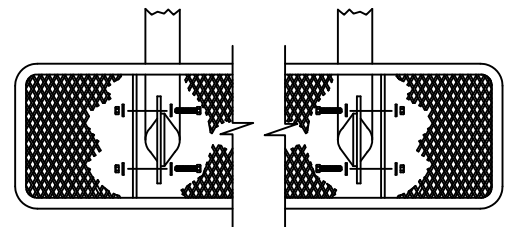

FIG. 2
Attach both (B-) seats to each side of the picnic table, aligning the seat's mounting brackets to the inside of the leg's mounting brackets, as shown in FIG. 2. Use two, per mounting bracket, (G) and (H) using two (F) and one (J) per (G).